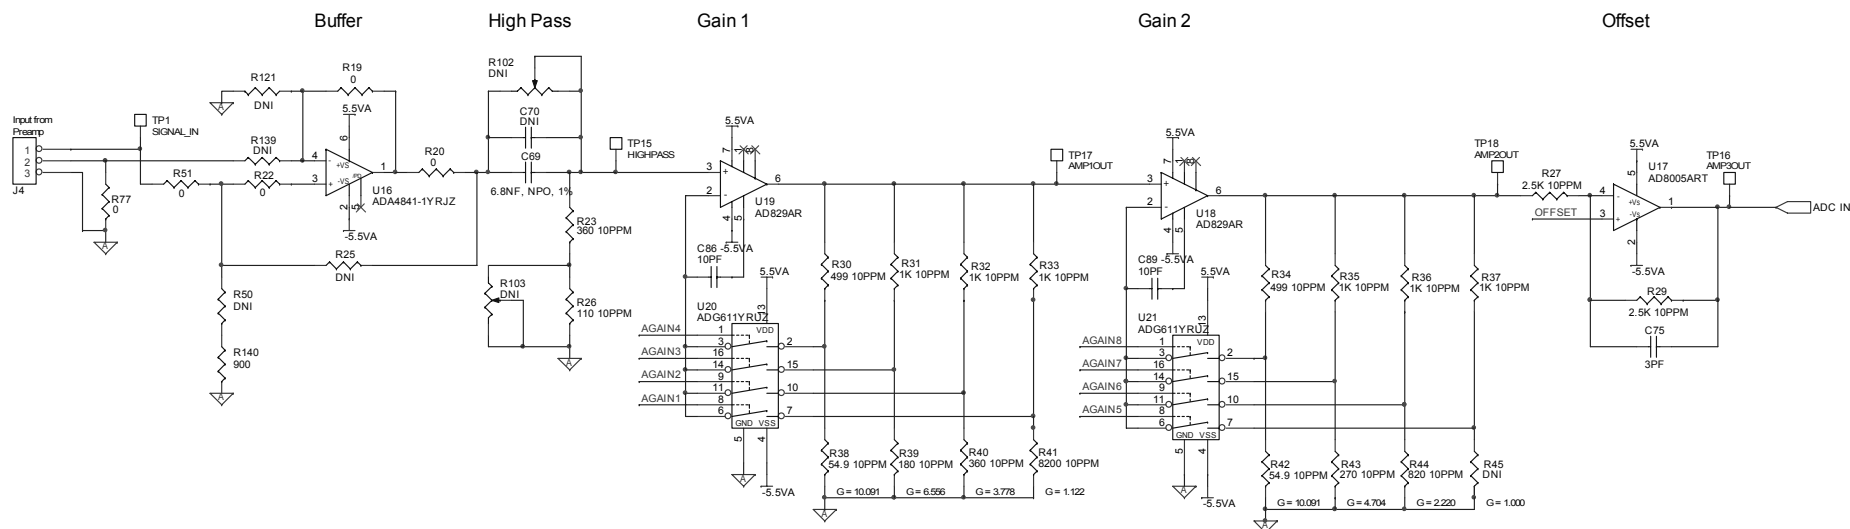

Figure 7-4. Schematic of the analog prefilter circuit in the DP5.
The analog prefilter circuit (Figure 7-4) includes four main elements: (1) input buffer, (2) a high pass filter with a 3.2 μ sec time constant, (3) two gain stages, and (4) an amplifier providing DC offset.